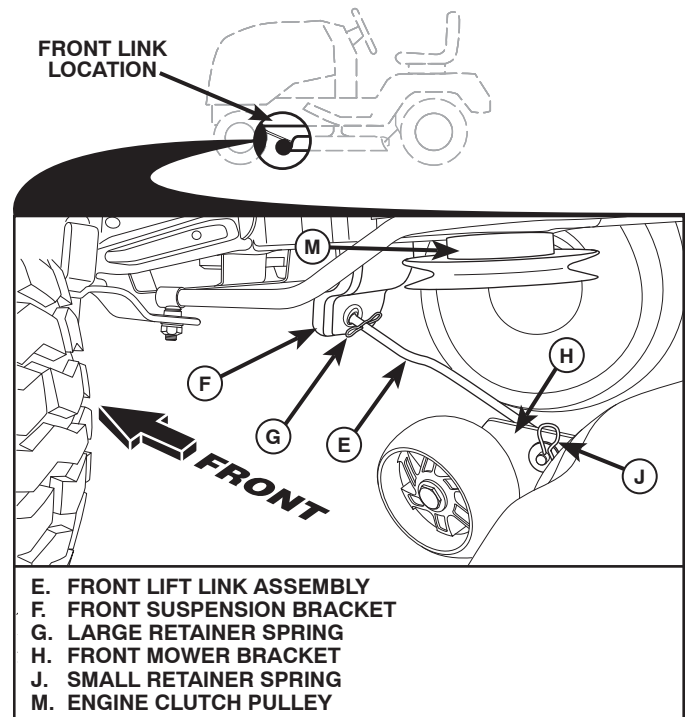

Fig. 30
8. ATTACH FRONT LINK (E) (See Fig.30)
- From front of tractor, insert rod end of front link (E) through front hole in tractor front suspension bracket (F).
- Move to left side of mower and and insert large retainer spring (G) through hole in front link (E) behind front suspension bracket (F).
- Insert other end of link (E) into hole in front mower bracket (H) and secure with washer and small retainer spring (J).